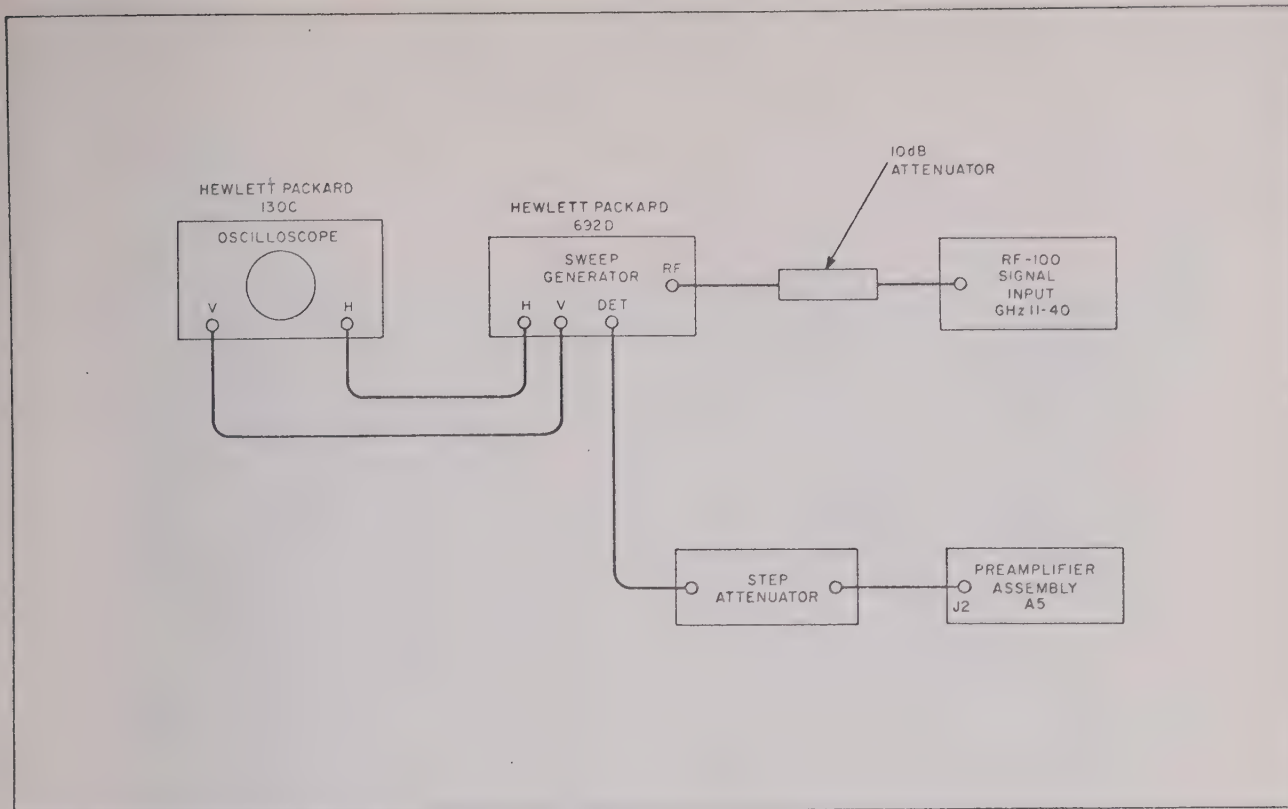

Figure 4-8. Test Setup for Alignment of 160-MHz Preamplifier Assembly A5
- a. Connect the test equipment as shown in figure 4-8.
4-22. ALIGNMENT OF PREAMPLIFIER ASSEMBLY A2. Use the test setup of figure 4-8 except that SIGNAL INPUT GHZ 1-11 jack is used and 160-MHz preamplifier assembly A2 replaces assembly A5 in the figure.